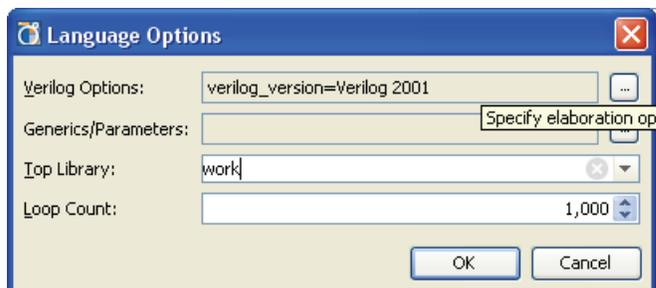

Figure 3-45: Language Options
- **Language Options:** Enter specific Verilog and VHDL options. These fields are shown in Figure 3-45.